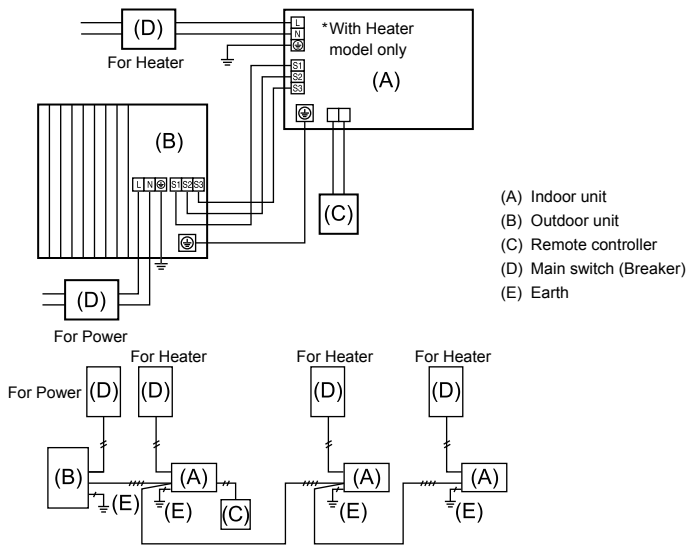

Fig. 6-1
6.1. Outdoor unit (Fig. 6-1, Fig. 6-2)
- (1) Remove the service panel.
- (2) Wire the cables referring to the Fig. 6-1 and the Fig. 6-2.